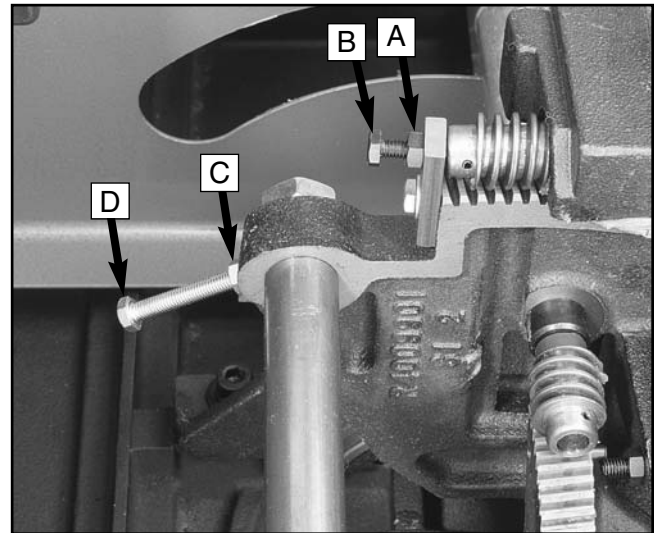

Figure 66. 90° and 45° stop bolt adjustments.
6. If a gap exists at either the top or the bottom of the square, loosen lock nut (A) and adjustment bolt (B) shown in **Figure 66**.
11. If variations exist, loosen the lock nut (C) and adjust the stop bolt (D) (**Figure 66**) until your blade and square match.